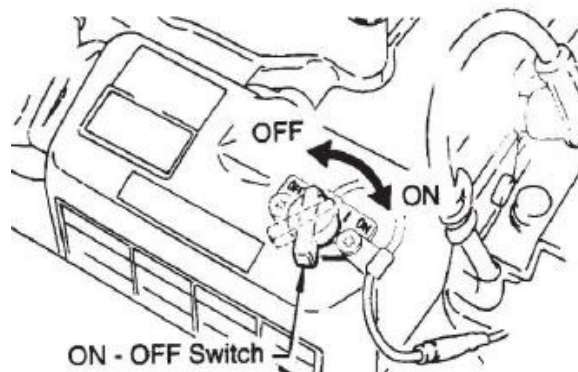
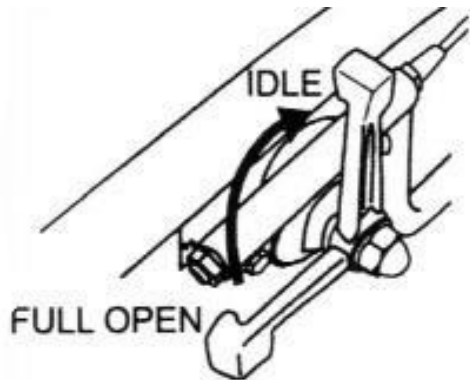

Fig 6
Fig 11
2. Set the engine ON/OFF switch (Fig 6) to the ON position (start).
1. Move throttle lever quickly from the FULL OPEN to IDLE position (Fig 11) and run the engine for three minutes at low speed. After the engine cools, turn the engine start/stop switch to the “STOP” position (Figure 6) until engine comes to a complete stop.